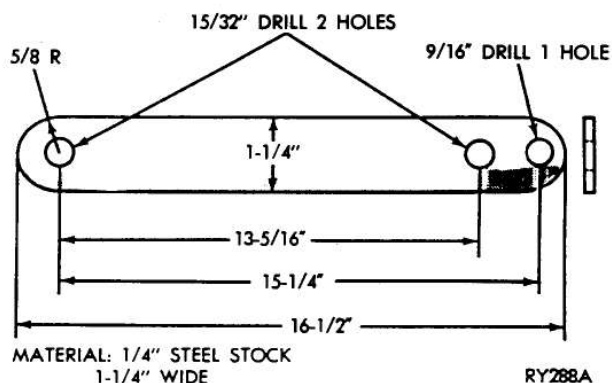

Fig. 9—Hub Seal Cup Retaining Strap
(2) With rotary motion, install torque converter hub seal cup over input shaft, and through the torque converter hub seal until the cup bottoms against the pump gear lugs. Secure with cup retainer strap (Fig. 9) using starter upper hole and opposite bracket hole.